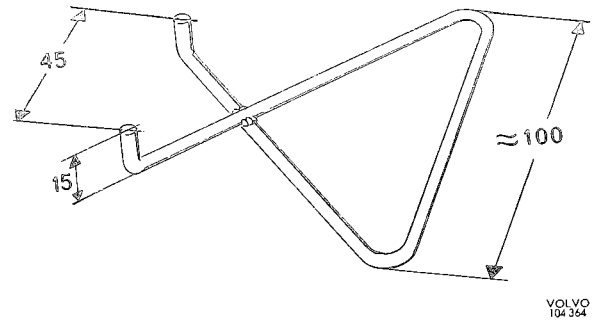
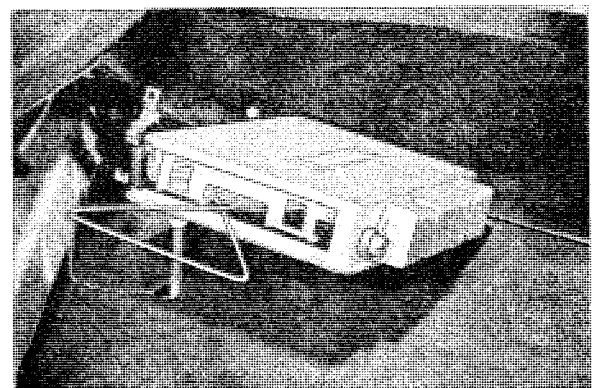

Fig. 2-90. Puller for plug contact
Fig. 2-91. Removing plug contact
5. Make a puller as shown in Fig. 2-90. Hook in the puller, see Fig. 2-91, and pull out the plug contact carefully.